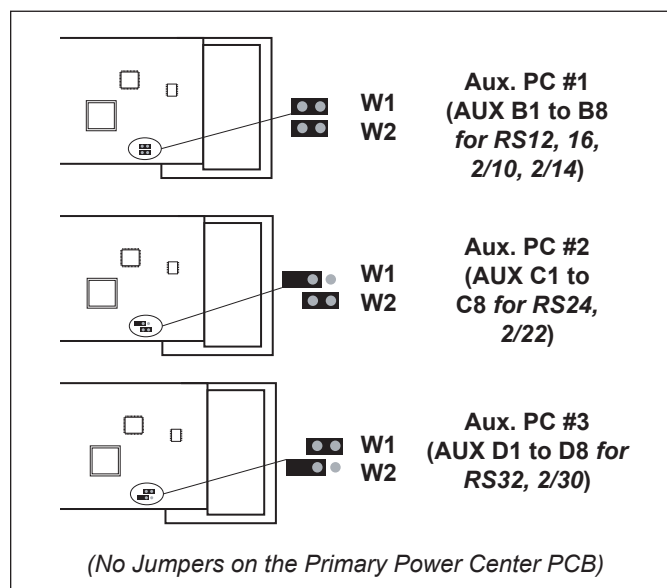

Figure 22. Setting Jumpers for Multiple Auxiliary Power Centers
- Never put more than two (2) wires into each of the pins of the red, 4-pin terminal bar (use a Jandy multiplex board).
- If more than one auxiliary power center is installed, set the jumpers as shown in Figure 22.